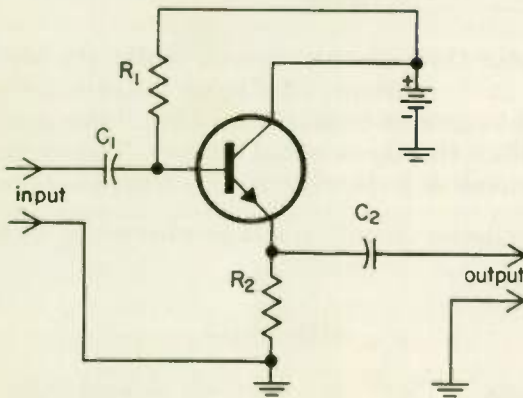

Fig. 16
1. You will often see one of the three configurations drawn similarly to Fig. 16. Which one is it? _____